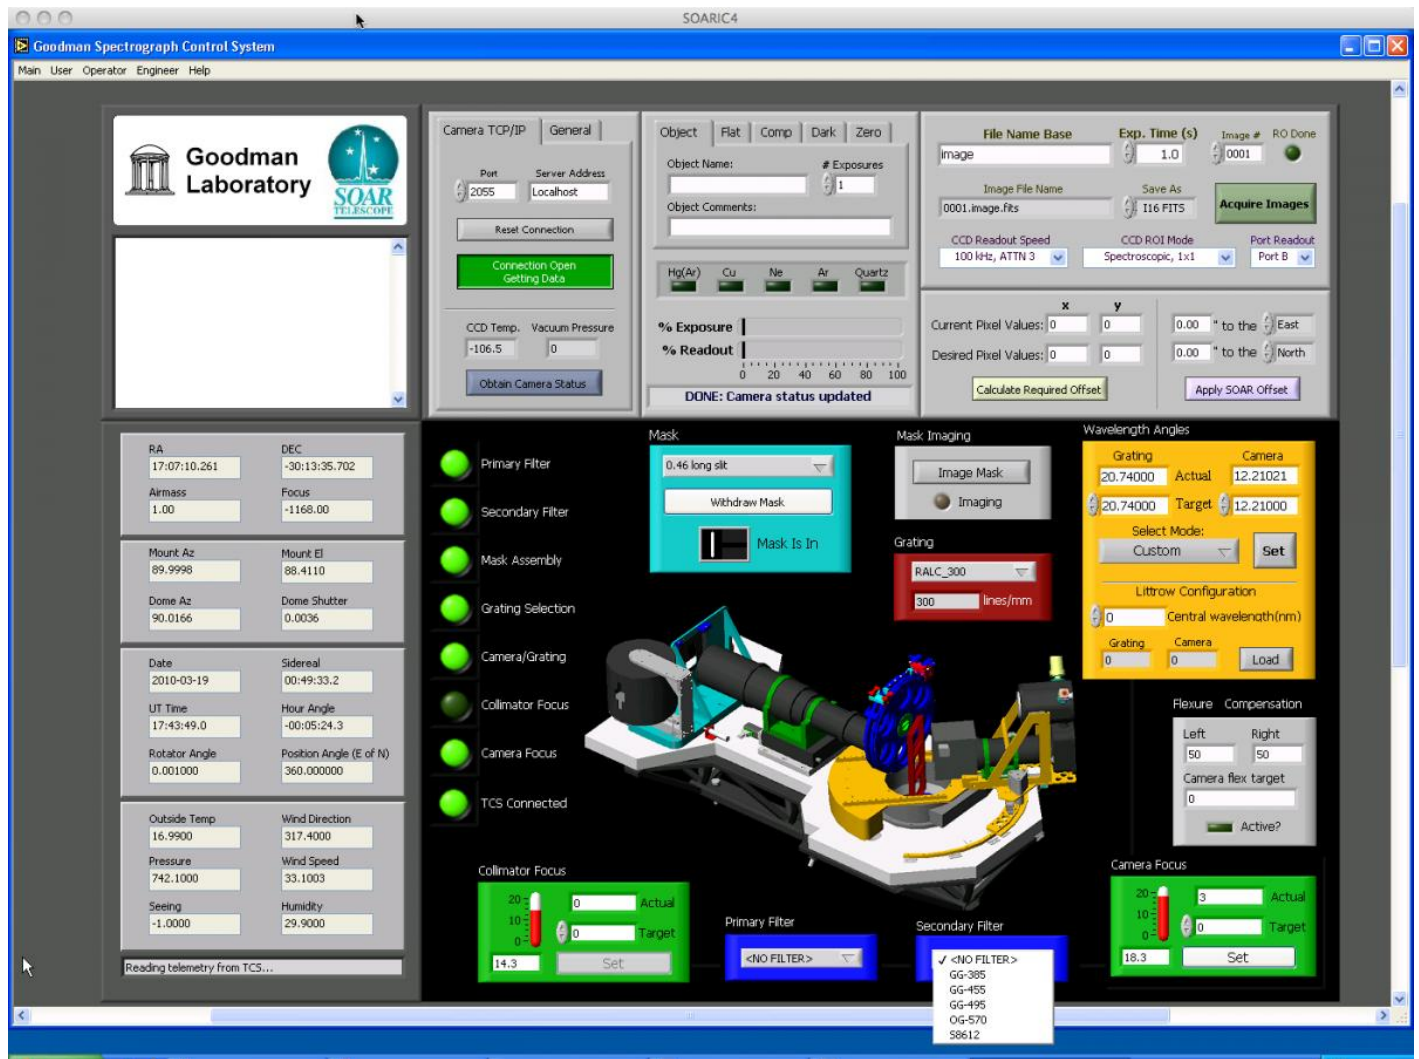

Figure 6: Selecting the order-sorting filter (secondary filter), if any, to be used.
- Select the filter you will use, if any (see Figure 6).